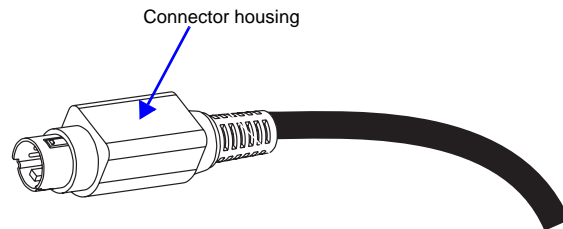

FIG. 4 Pull back on connector housing while pushing in
1. Fasten the locking S-Video plugs from the source and destination devices onto the S-Video connectors (FIG. 4 previous page).